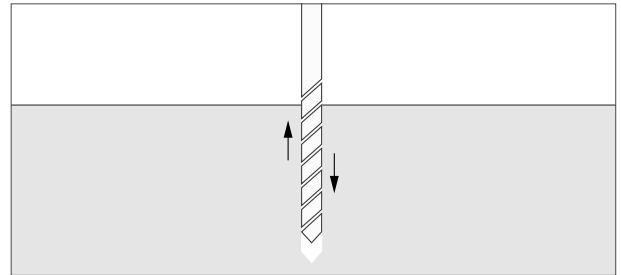

Fig. 1: Drill holes in the concrete foundation of the correct diameter and depth.
3.1 Drill holes in the concrete foundation with the diameter and depth specified in the product mounting instructions. (See fig. 1).